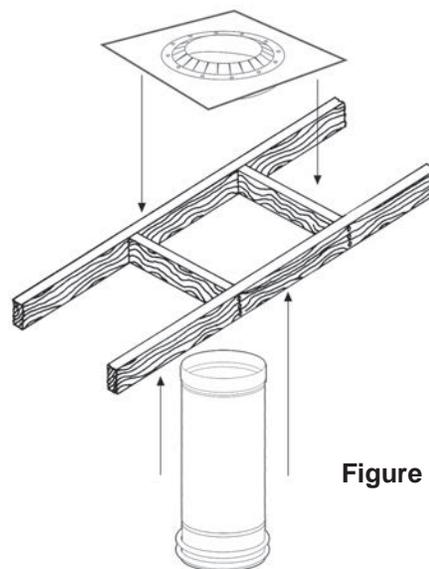

Figure 5
- Pipe should be inserted from below. A maximum of 30 feet of pipe may be installed above the support before resupport is required. (See Figure 5.)